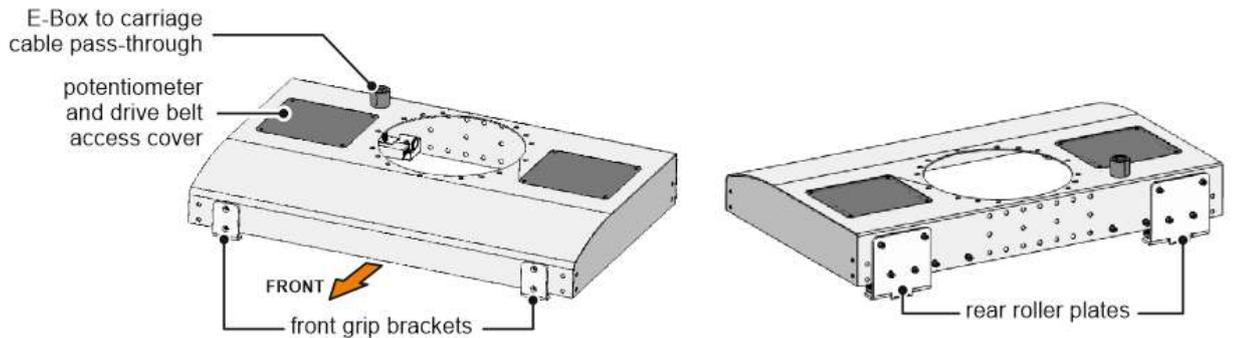

Figure 21 – Floor carriage front and rear view (rotating carriage version shown)
2. Mount the front grips back into their place on the floor carriage (see Figure 21).